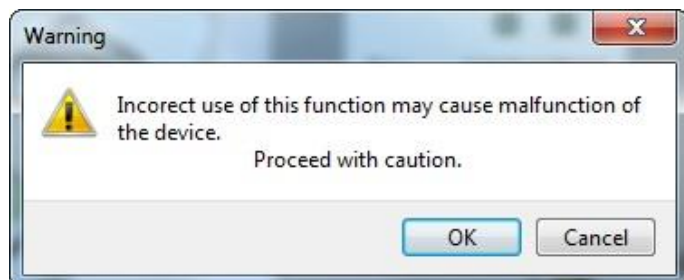

Fig. 30 Warning.
- Select: **OK** to start update (Fig. 30)